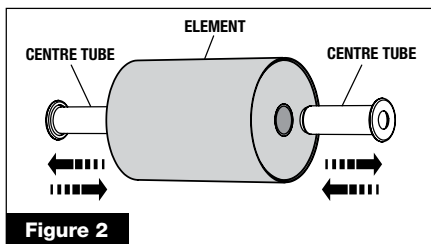

Figure 2
- 5 Remove the centre tubes from each end of the old elements and retain (**figure 2**).
- 11 Insert the centre tubes into the new elements. Ensure they are fully inserted (**figure 2**).